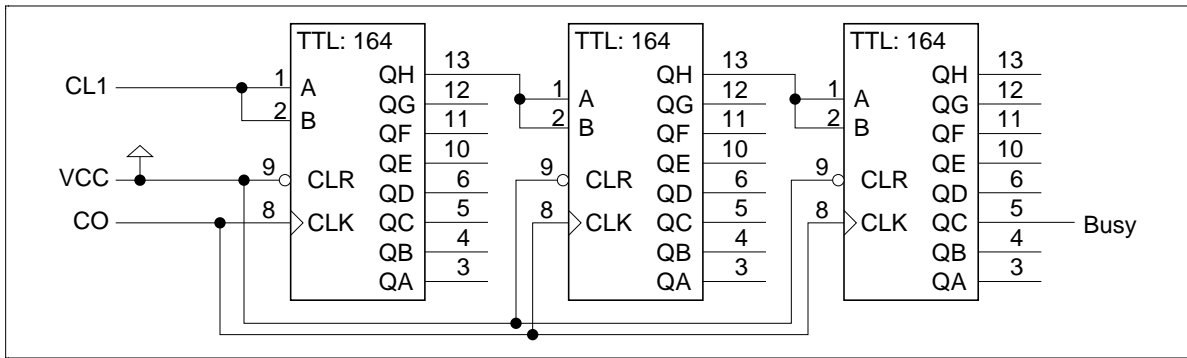
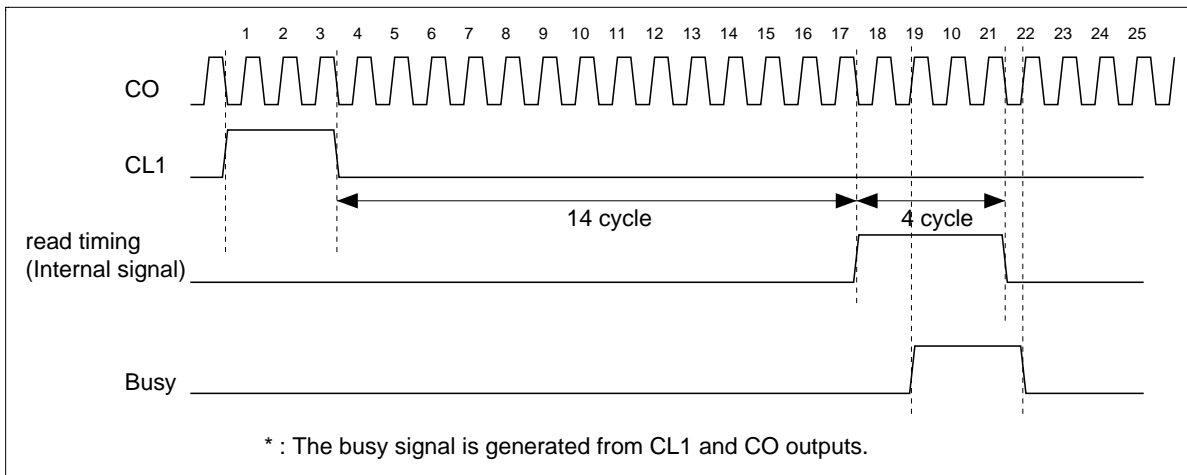

Figure 44 Example of external circuits
Figure 45 The Timing Chart of External Circuit
- (1) The external circuit must be needed to avoid flickering if the software needs to rewrite data frequently like moving picture. The busy signal must be generated externally and the software must check this status before reading or writing or use this busy signal as a wait signal for CPU. This circuit and timing are shown in figure 44 and figure 45. This circuit is one example for your reference, you must design this timing according to your system.
- (2) It is possible that the external circuit is not needed if the data does not needed to be rewritten frequently. The flickering may occur occasionally, then please evaluate carefully on your system in this case.
- (3) The same countermeasures as (1) is needed for reading from CPU.